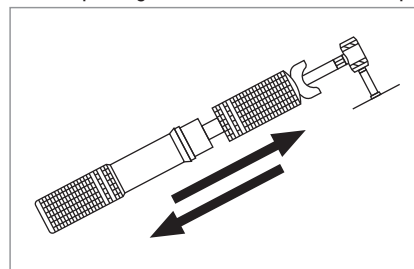

Figure 4
5. Pump using two hands until the desired pressure is reached (fig. 4).
4. Pump using two hands until the desired pressure is reached (fig. 4).